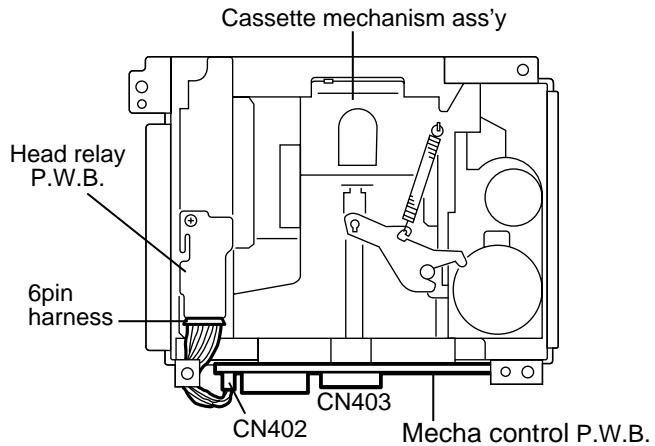

Fig.1
■ Removing the mecha control P.W.B. (See Fig.1 and 2)
■ Removing the cassette mechanism assembly (See Fig.1 to 3)
1. Disconnect the 6pin harness from connector CN402 and the card wire from CN403 on the mecha control P.W.B. (Refer to Fig.1 and 2).